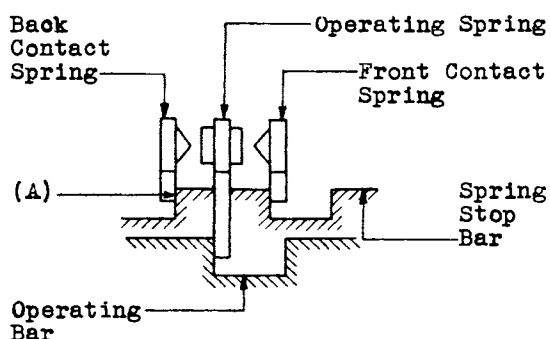

Fig. 12
- 1 - Fig. 12 (A) - Back Contact Spring Tang against the side of the notch in the spring stop bar further from the roller shall be